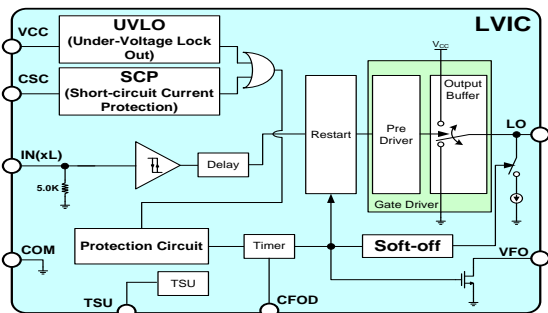
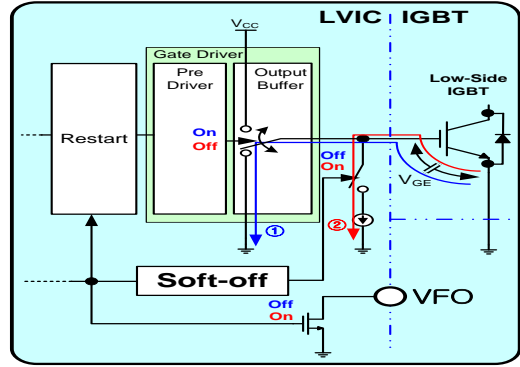

Figure 24. Internal Block Diagram of LVIC
Figure 25. Operating Sequence of Soft Turn-Off
An internal block diagram of LVIC and operation sequence of soft turn-off function is shown in Figure 24 and Figure 25. This function operates by two internal protection functions (UVLO and SCP). When the IGBT is turned off in normal conditions, LVIC turns off the IGBT immediately by turn-off gate signal ($IN(xL)$) via gate driver block. Pre-driver turn-on output buffer of gate driver block, path ①. When the IGBT is turned off by a protection function, the gate driver is disabled by the protection function signal via output of protection circuit (disable output buffer, high-Z) and output of the protection circuit turn-on switch of the soft-off function. V_{GE} (IGBT gate-emitter voltage) is discharged slowly via circuit of soft-off (path ②).